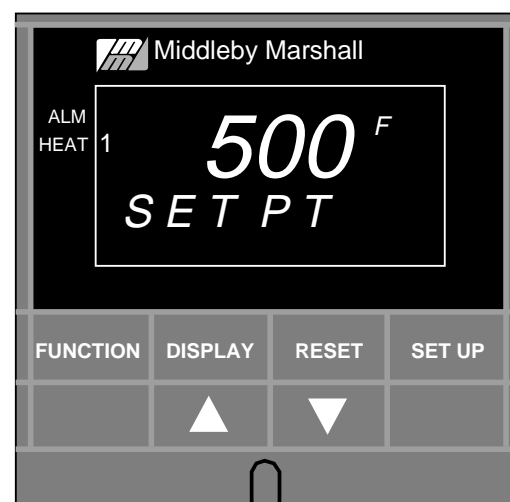

Figure 3-11
- b. HEAT - The HEAT window will display either a “1” or will be blank. Refer to Figure 3-11.